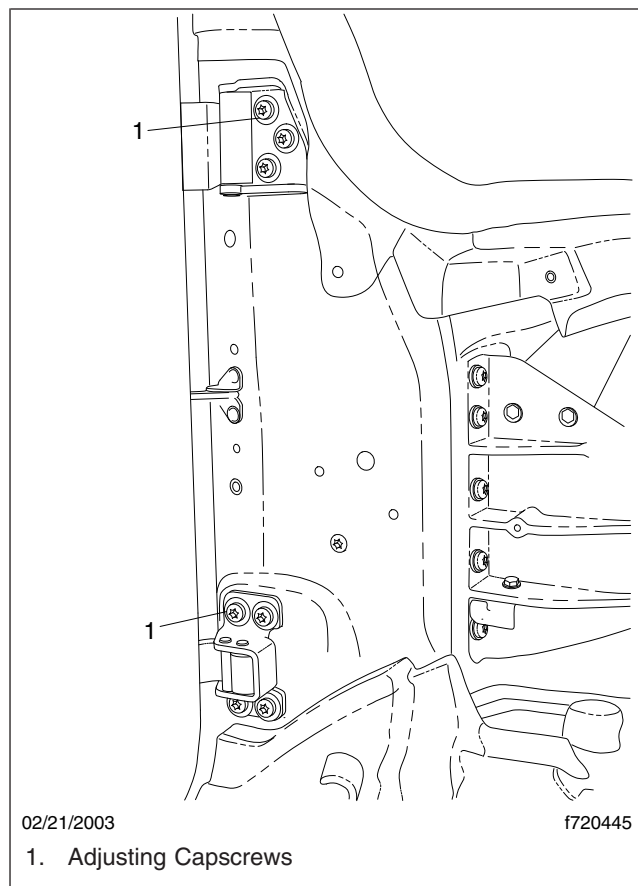

Fig. 1, Fore-and-Aft and Up-and-Down Adjusting Capscrews on the Cab
6. Loosen the capscrews that attach the hinges to the cab, but keep them tight enough to prevent unintentional movement. See **Fig. 1**.